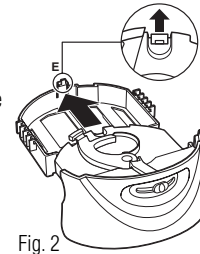

Fig. 2
7. To empty Catch-tray, pull the Snap Tab (E) at the back and separate the top and bottom (See Fig 2). Please use caution when emptying the tray; make sure the insects (especially stinging insects) are inactive. If you notice that beneficial insects have been captured, it is your choice to release them outdoors or let them dehydrate in the unit. Clean the Catch-tray as necessary by rinsing under running water and dry with a paper towel.